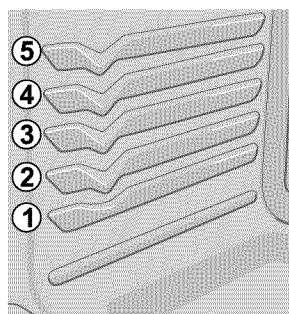
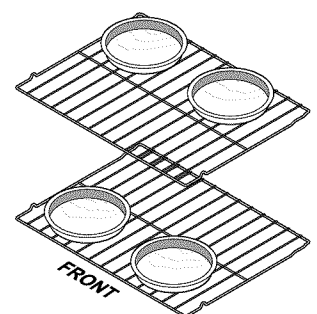

Figure 1
Figure 2
- For best results when baking cakes using two oven racks, place racks in positions 2 and 4 (See figure 1) and position cookware as shown in figure 2. Allow at least 2 inches (5 cm) of space between cookware for proper air circulation.